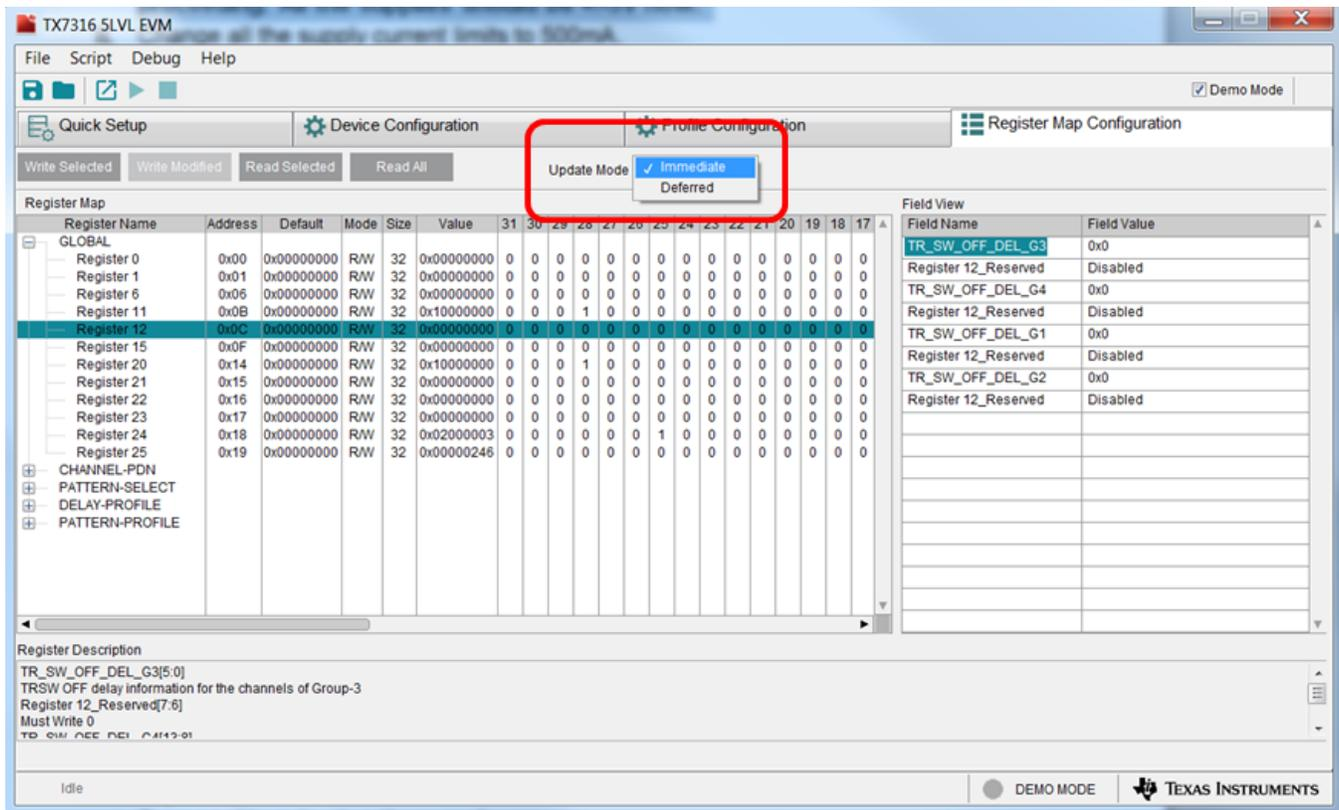

Figure 36. Register Map Configuration – Update Mode
You can make register updates using the two options listed in the *Update Mode* drop-down, as shown in Figure 36: (a) Immediate and (b) Deferred.
- a. Read Selected: Use this option to read from a selected register. In order to select a particular register, click on any register under *Register Name* and then use *Read Selected* button to read from the selected register. The *Address* field displays the address of the selected register, and the *Value* field displays the value contained in that register as shown in Figure 36.